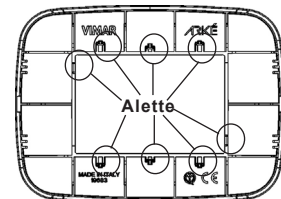
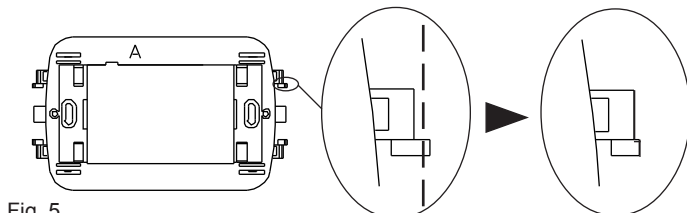

Fig. 4
Fig. 5
N.B. For mounting plates **VIMAR** series ARKE' Classic, ARKE' Round versions (**Color-tech** and **Techno-Basic**) remove with a cutter 8 pins on the back of the plates ARKE' as shown in Figure 4.
For mounting plates **VIMAR** series ARKE' Round (**Metal-Color**, **Metal-Elite**, **Wood**, **Reflex Plus**) ARKE' Classic (**Metal-Color**, **Metal-Elite**, **Alu-tech**, **Wood**) remove with a cutter a part of the 4 pins (Fig.4) and 8 pins present back to the ARKE' plate as shown in Figure 5.